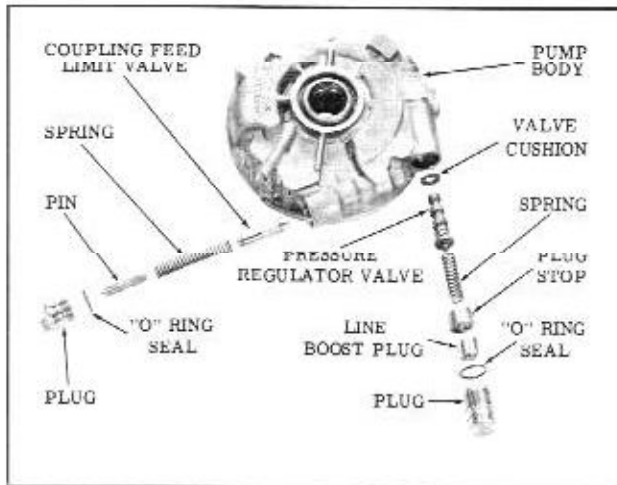

Fig. 3-83 Pump Valves
6. Remove the coupling feed limit valve plug and "O" ring. Inspect and remove the "O" ring if necessary. (Fig. 3-83)
7. Remove the coupling feed limit valve spring, valve and pin. (Fig. 3-83)
9. Remove the pressure regulator spring, valve and line boost plug stop. (Fig. 3-83)
1. Install a new pressure regulator valve cushion if replacement is necessary. (Fig. 3-83)
2. Install the pressure regulator valve, spring, plug stop, boost plug, "O" ring and plug. Torque plug 15-20 ft. lbs. (Fig. 3-83)
pin, "O" ring and plug. Torque 15-20 ft. lbs. (Fig. 3-83)